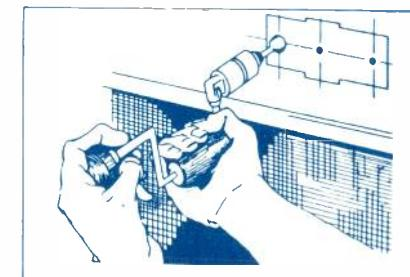

Figure 10. Drilling Trim Plate Holes
STEP 8. Drill three 1/2" holes, using 1/8" holes as center guide and the hand brace with the special 1/2" drilling tool supplied with kit. Refer to Figure 10.